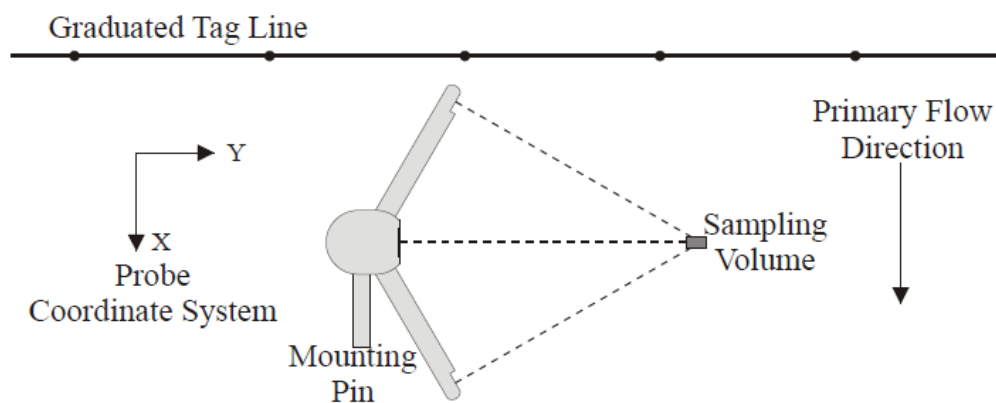

Figure 1. Flowtracker2 probe orientation relative to stream flow.
**Velocity angle** is defined as the direction of flow relative to the X direction. The FlowTracker's X-axis is always held perpendicular to the tag line (Figure 1).